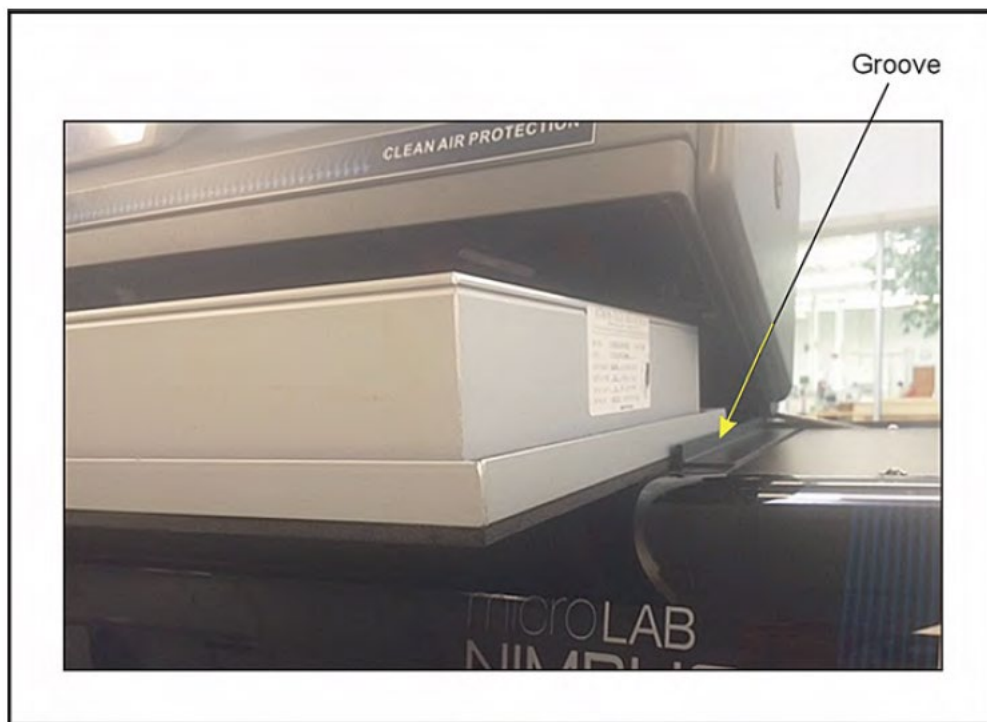

Figure 32. Sliding HEPA Filter in Against Groove
4. Using the groove, slide the HEPA filter into place (Figure 32).